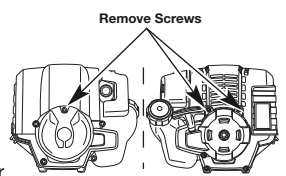

Fig. 34
1. Remove the two (2) screws on back of the engine cover and the one on the front of the engine cover with a Flat-head or T-25 Torx screwdriver (Fig. 34).
- Stop the engine and allow it to cool. Remove the two (2) screws on back of the engine cover and the one on the front of the engine cover with a Flat-head or T-25 Torx screwdriver (Fig. 34).